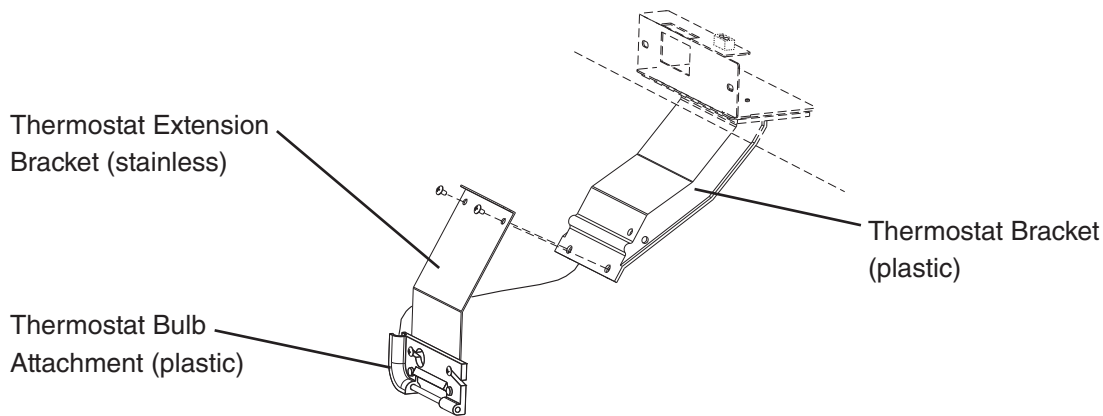

Fig. 5
- g. Remove the 2 screws from the lower part of the thermostat bracket (plastic) and use them to attach the thermostat extension bracket (stainless) to the thermostat bracket (plastic). See Fig. 5.